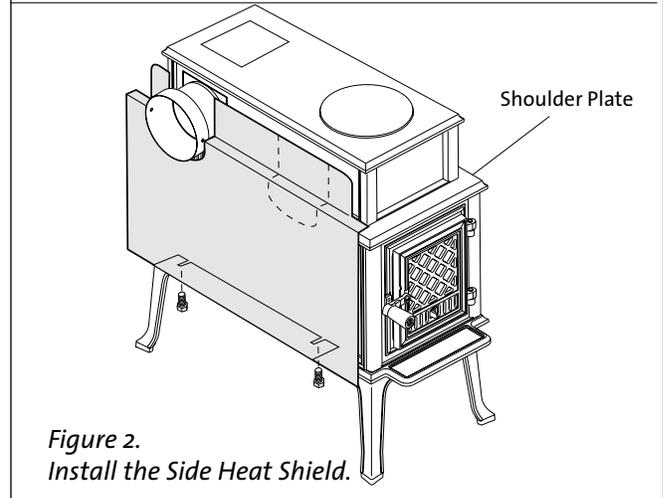

Figure 2.
1. Use a 10 mm wrench to loosen the two mounting bolts located under the lip of the stove bottom. See **fig. 2**.